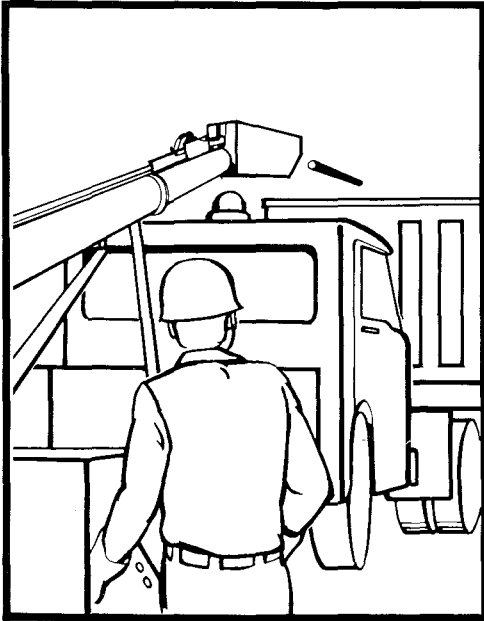
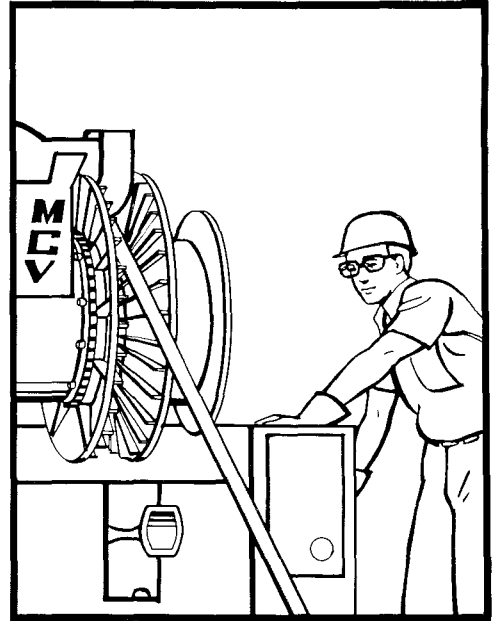

Fig. 15—Observing Cut Cable
Fig. 16—Observing the Pulling Wheel
4.16 As the cable is being pulled, continue to monitor the pressure gauges and frequently observe the pieces of cable as they are discharged (Fig. 15). Watch for skipped cuts, stripped sheath, severe curving of the cut lengths, etc. Also, frequently observe the cable feeding into the pulling wheel (Fig. 16). Watch for proper alignment, cam pressure, damaging of cable sheath, and nip roller down pressure. As the cable is pulled from the